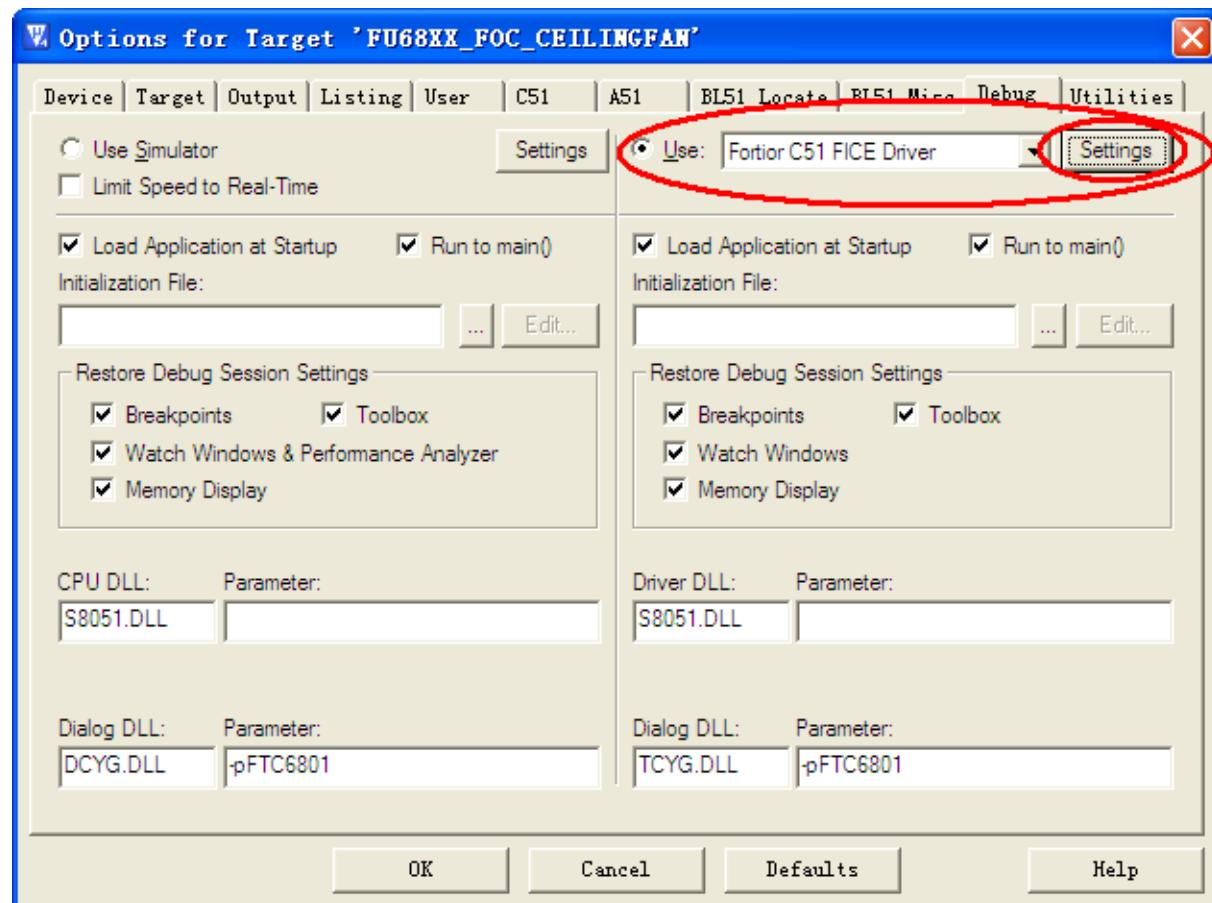

Figure 32-1
Step 1: Open 8051 integrated design tool, enter “Target Options” , select “Debug” button, and click button settings as figure 32-1.